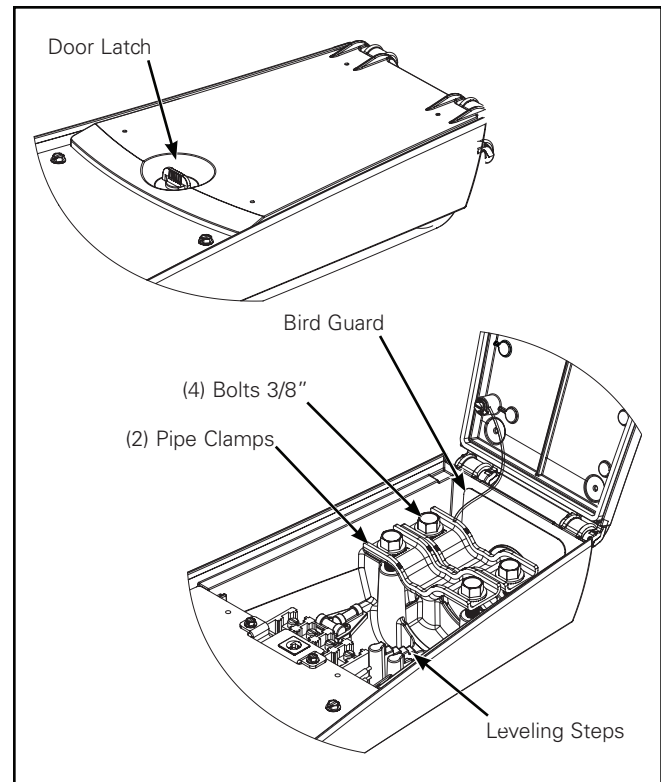

Figure 2.
5. If using a 1-1/2" pipe, remove the clamp bolts and flip clamps so that pipe size is visible from the top. The clamps must be reversed for the smaller pipe size option. (Figure 2.)